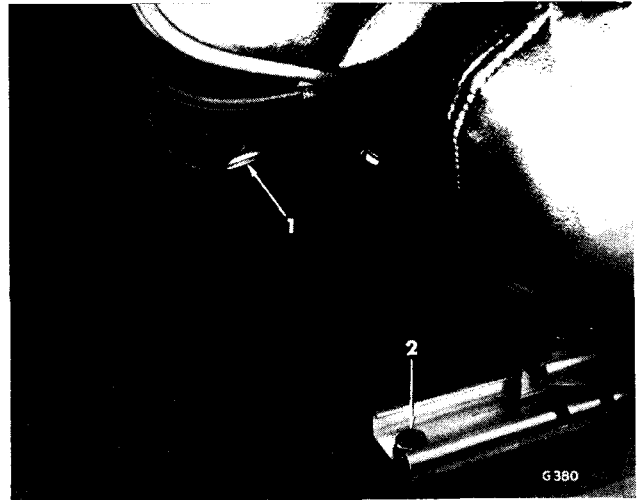

Fig. 29. Seat front attachment
Pull off the press-studs (1) (Fig. 29) and (3) (Fig. 30) and lift clear.
Remove two bolts (2) (Fig. 29) and two bolts (4) (Fig. 30).